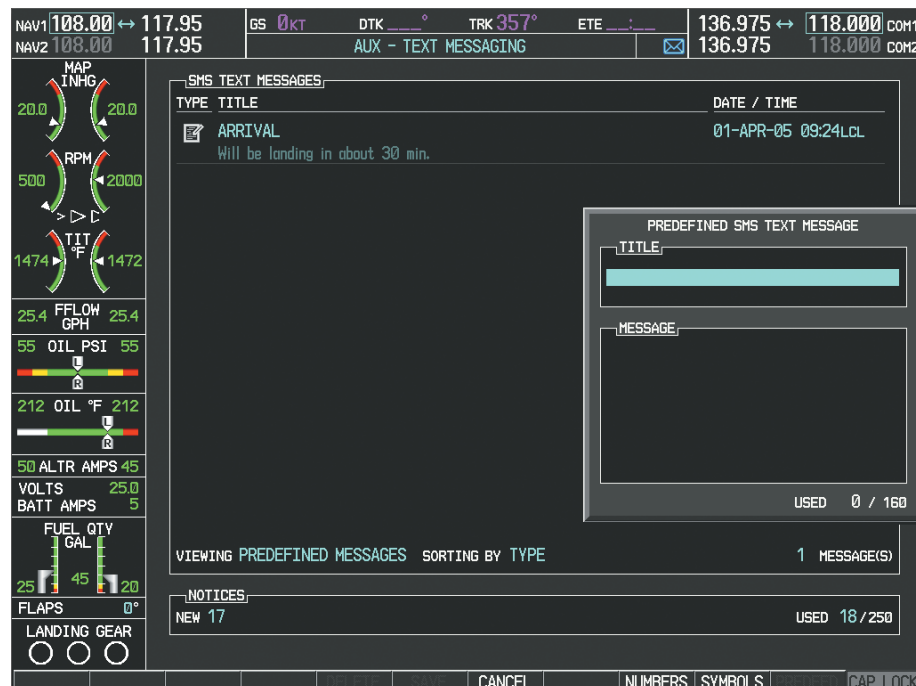

Figure 8-89 Composing a Predefined Message
- c) Press the **ENT** Key. The PREDEFINED SMS TEXT MESSAGE Window is now displayed as shown in Figure 8-89.